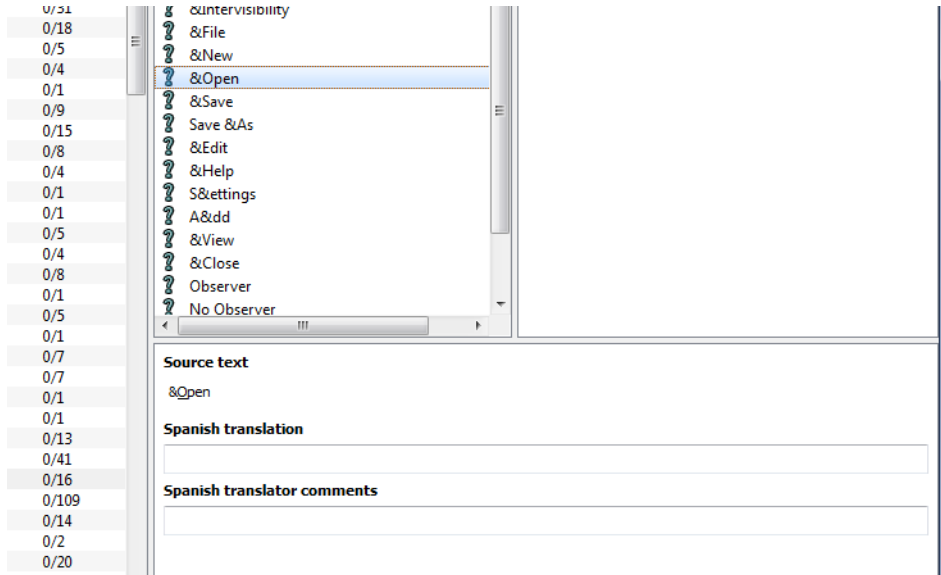

Figure 1-6. Text selected for translation
6. In the Source Text list, select the word you want to translate. The text is displayed under Source Text in the translation area (the window below the source text list.) Figure 1-6 shows the text Open selected.